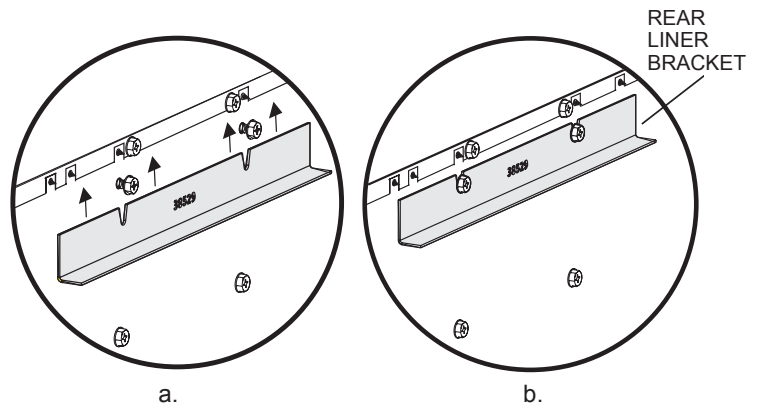

Figure 2
3. Slide rear liner bracket up under screw heads as shown in **Figure 2 a, b.** Hold rear liner bracket and tighten screws using screwdriver. (Do not use socket driver.)